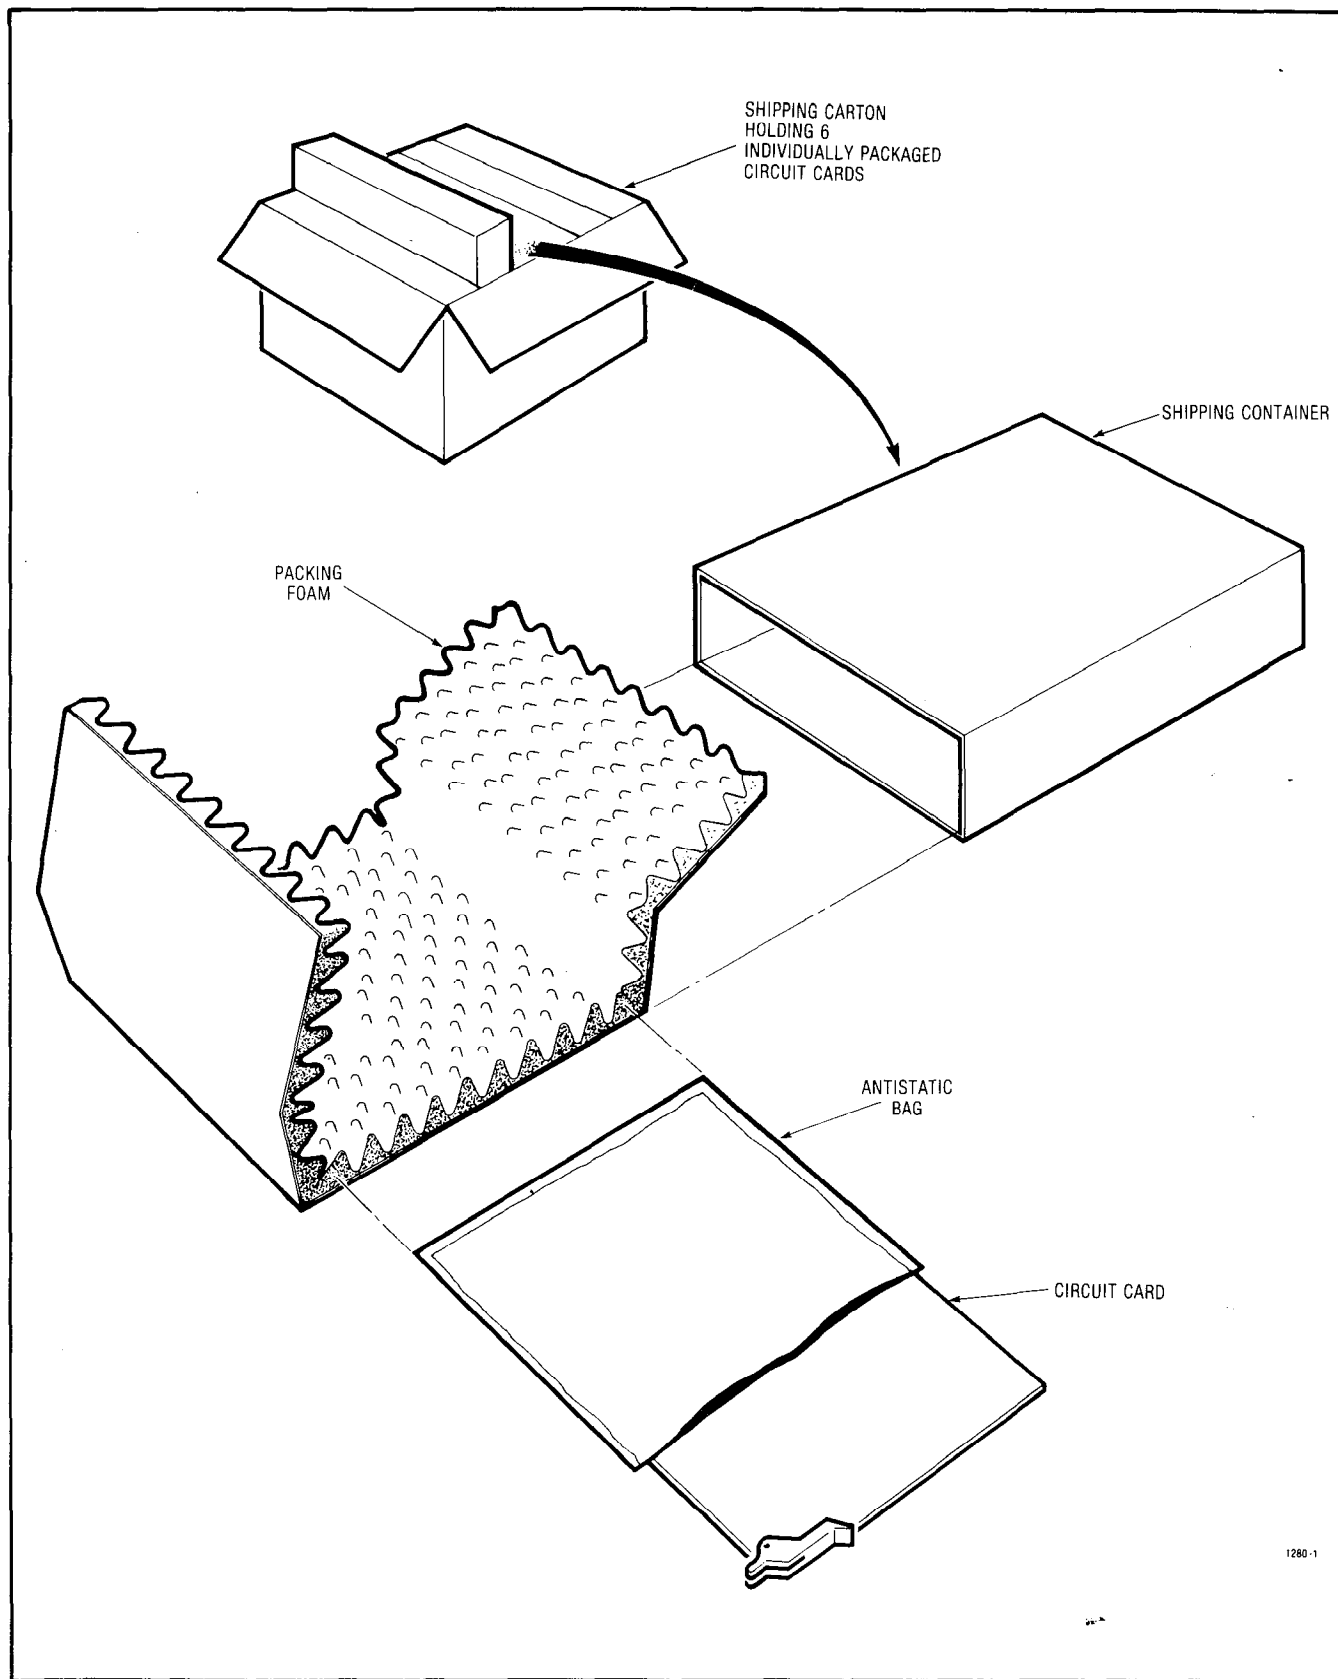
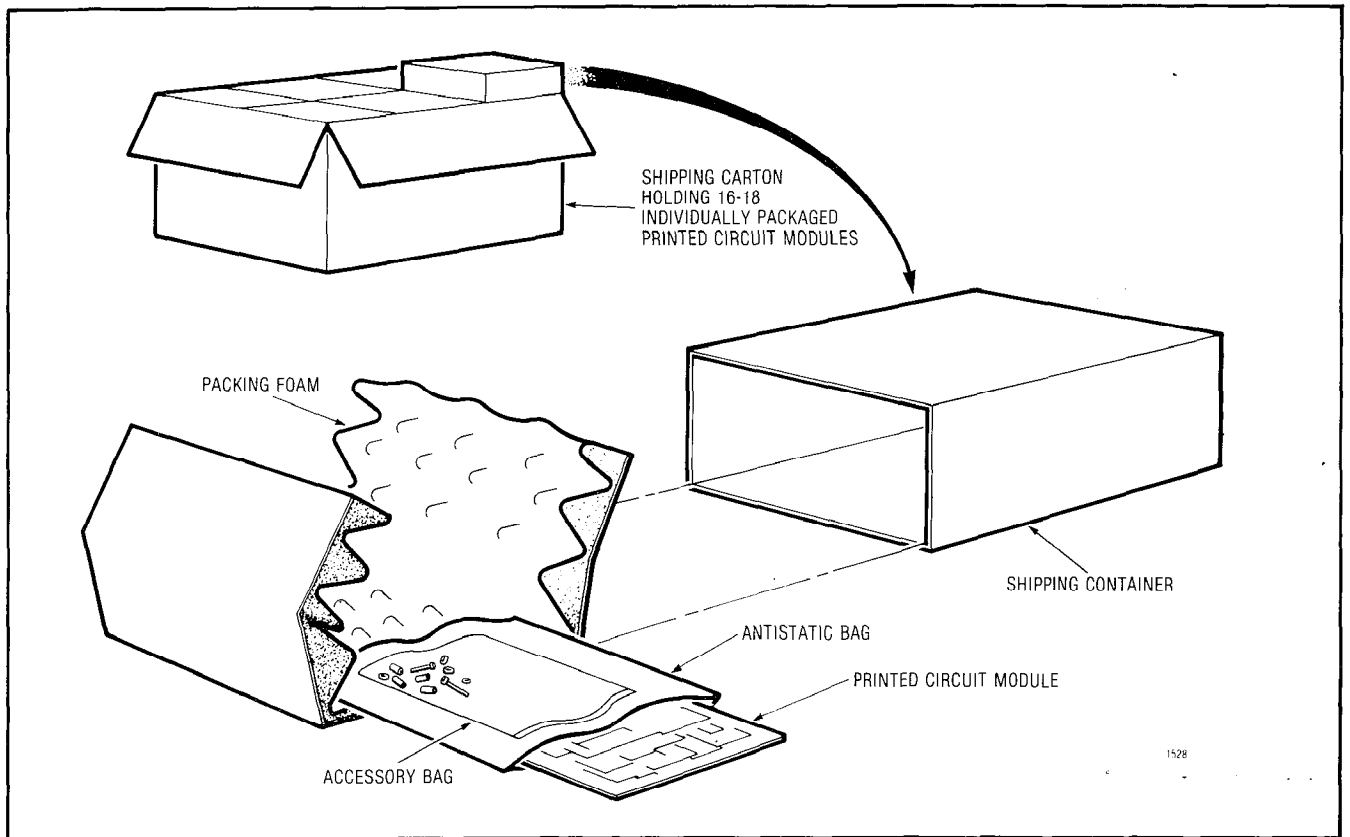

Fig. 3-2 Printed Circuit Card Packaging
Fig. 3-3 Printed Circuit Module Packaging
**3.03** All printed circuit cards, other than those shipped in the system, are packaged individually or in sets as shown in Fig. 3-2 and Fig. 3-3.